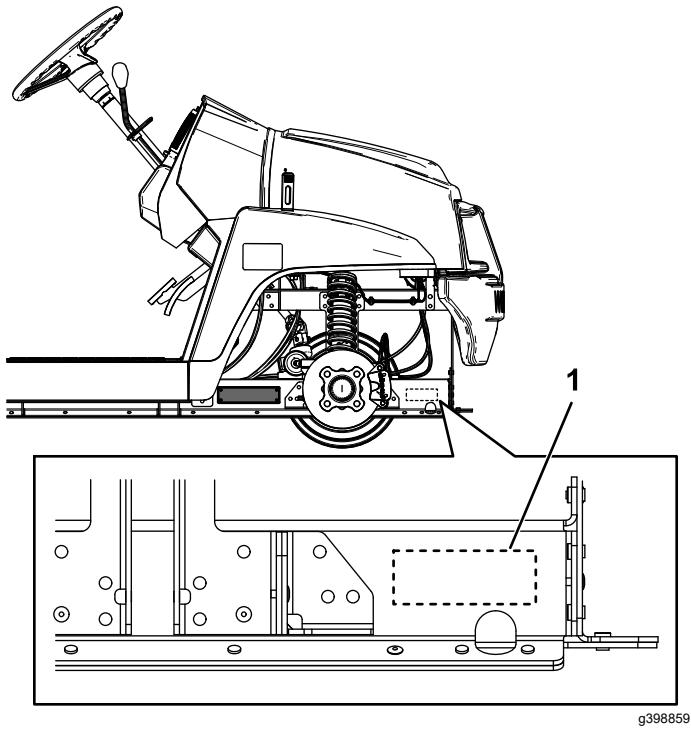

Figure 5
2. Stamp the serial number on the machine in the location shown in Figure 5.